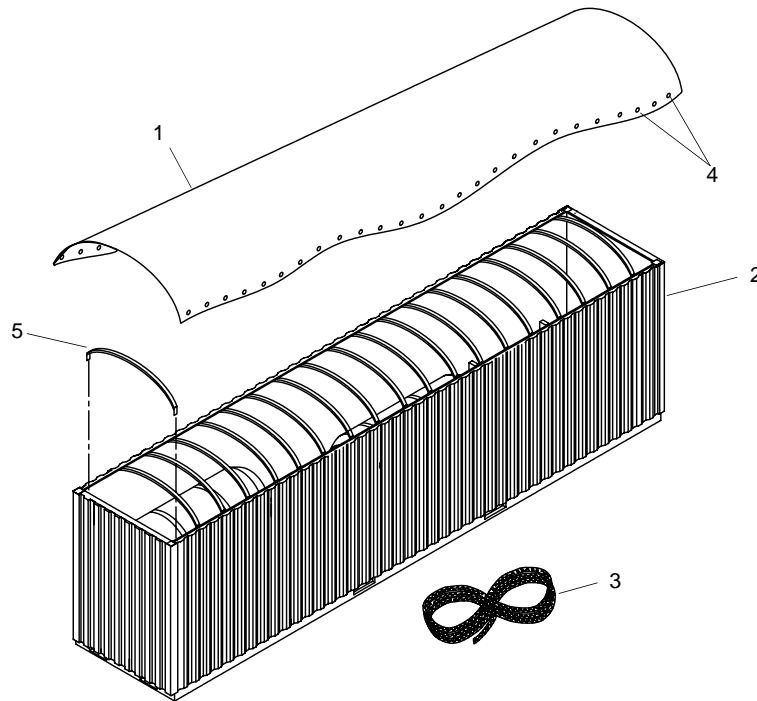

Figure 20. Opening the Fender Container
1. Release tarp (figure 20, item 1) from container (figure 20, item 2) by removing cable (figure 20, item 3) from grommet holes (figure 20, item 4) in tarp (figure 20, item 1).
2. Remove tarp (figure 20, item 1) from bows (figure 20, item 5).
3. Remove ceiling bows (figure 20, item 5).
29. Install ceiling bows (figure 20, item 5) on container (figure 20, item 2).
30. Install tarp (figure 20, item 1) on bows (figure 20, item 5).
31. Thread cable (figure 20, item 3) through grommet holes (figure 20, item 4) in tarp (figure 20, item 1) and attach to brackets on side of container (figure 20, item 2) to secure tarp (figure 20, item 1).